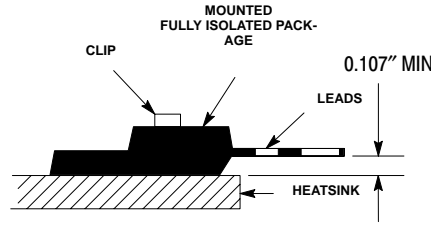

Figure 4. Clip Mounting Position for Isolation Test Number 2
- UL Recognized mounting method is per Figure 4